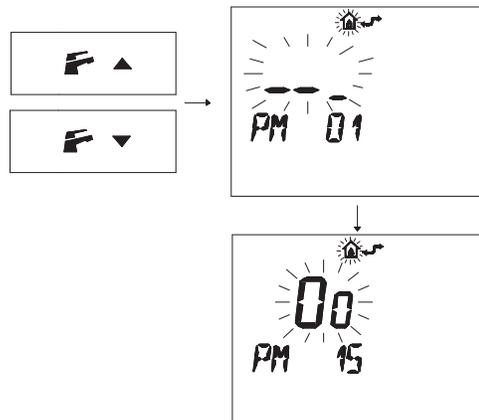

Fig. 7.13
- Press buttons **F ▲** or **F ▼** to display the "PM15" program that enables the external probe (Fig. 7.13).